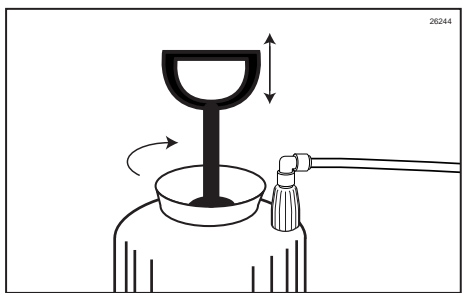

Figure 127
5. Reinstall the hand pump and tighten sufficiently. Using the handle, pump air into the Sanitizer Tank to prime the pump (approximately 10 strokes.) (See Figure 127.)